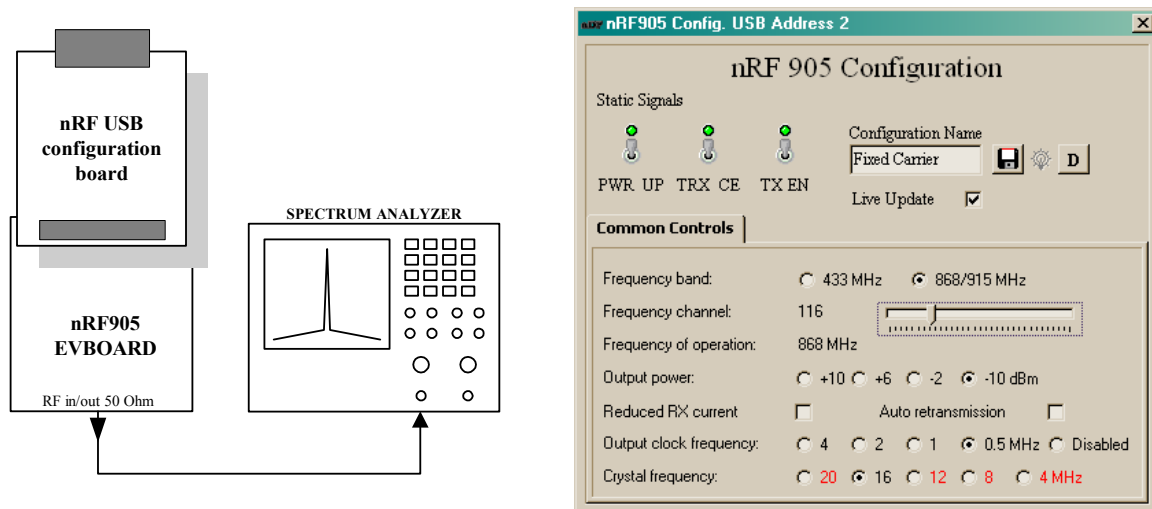

Figure 4 RF frequency and output power test bench
The test bench for RF frequency and output power measurements is shown Figure 4.
- The **nDP** should now launch a **nRF905** Configuration “**Fixed Carrier**” window as shown in Figure 4